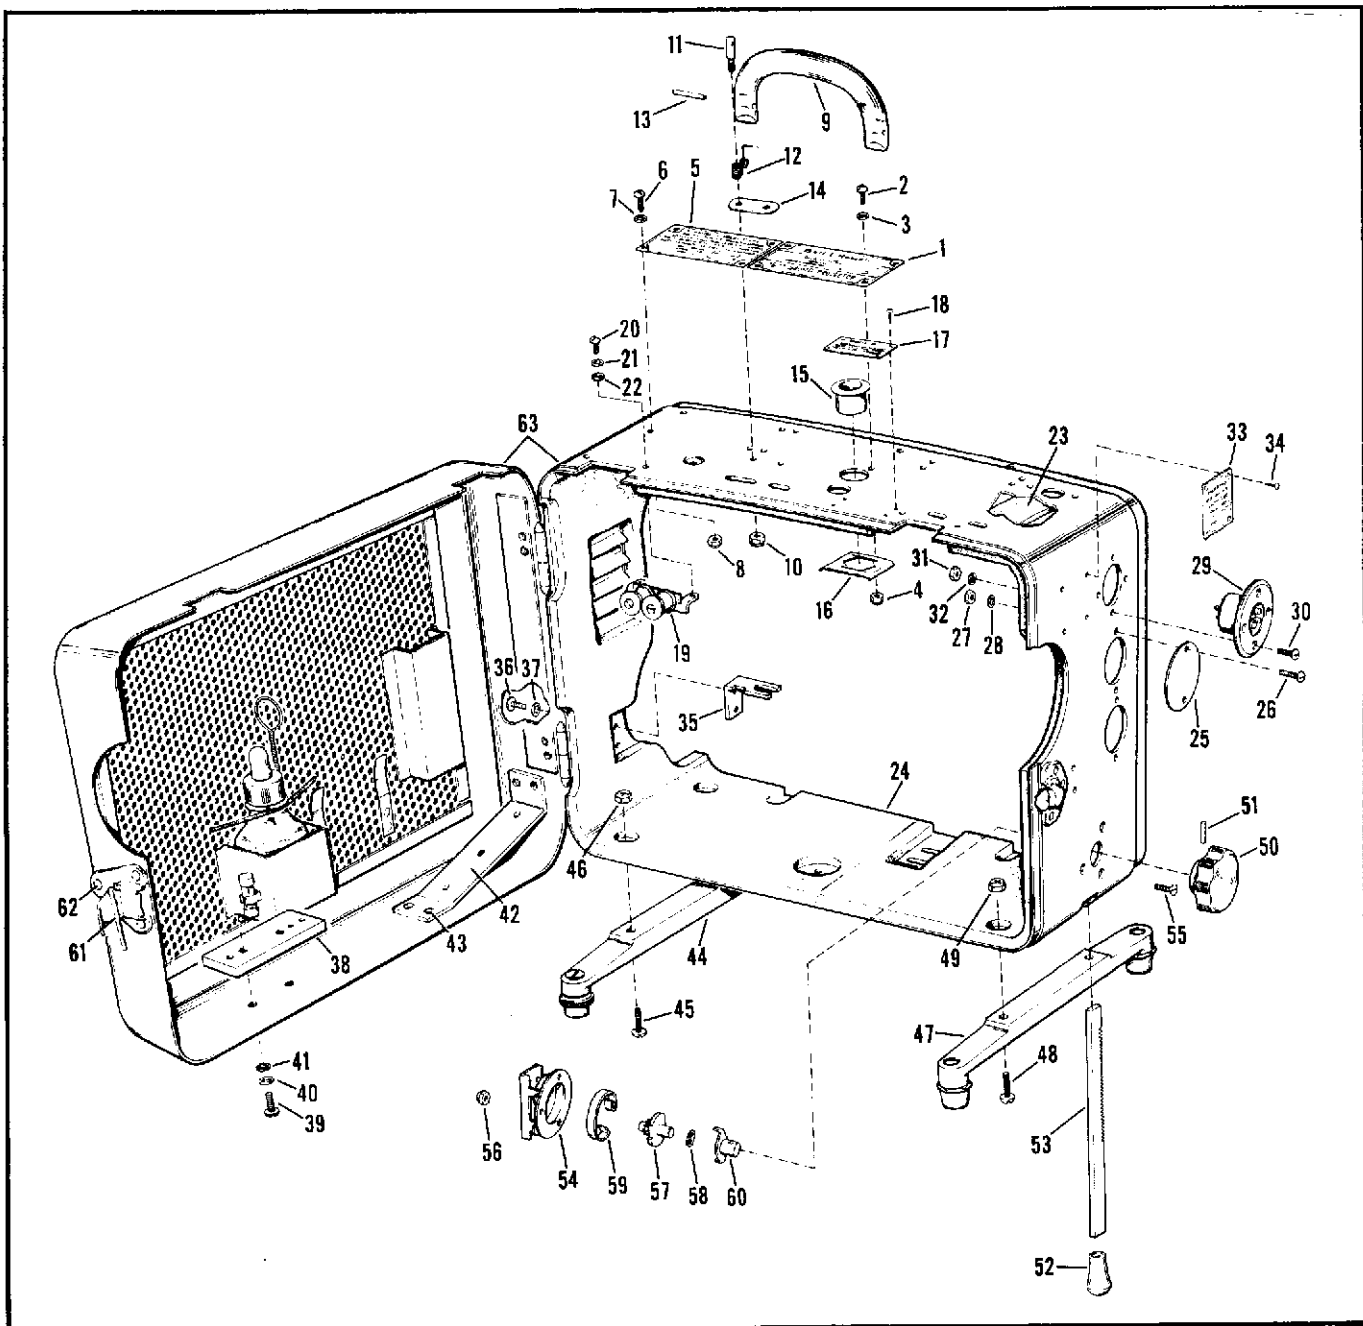

Figure 2-45. Projector Case Assembly Exploded
2-175. DISASSEMBLY. (See figure 2-45.) Disassembly of projector case parts can be accomplished by referring to figures 2-45 through 2-48.
2-179. REASSEMBLY. (See figure 2-45.)
Key for Figure 2-45
d. Insert assembled mechanism up into position within projector case and secure with three screws (55) and elastic stop nuts (56). Secure knob (50) to tilt jack arm (60) with straight pin (51).
e. Assemble any remaining parts to projector case as shown in figure 2-45.